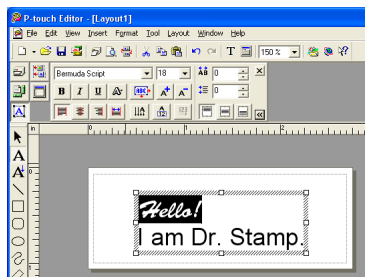

figure 4
- The highlighted text is changed (see figure 4).